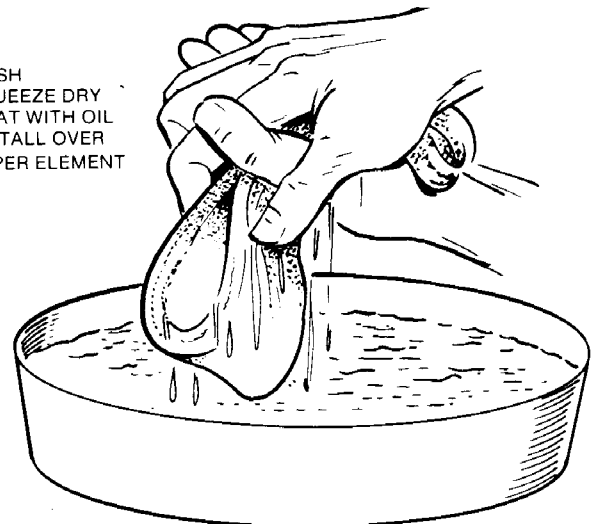

FIGURE 13. AIR CLEANER ASSEMBLY
1. To clean precleaner wash in water and detergent, referring to Figure 13. Remove excess water by squeezing like a sponge and allow to dry thoroughly. Distribute two tablespoons of SAE 30 engine oil evenly around the precleaner. Knead into the precleaner to distribute oil evenly. Wring out excess oil.